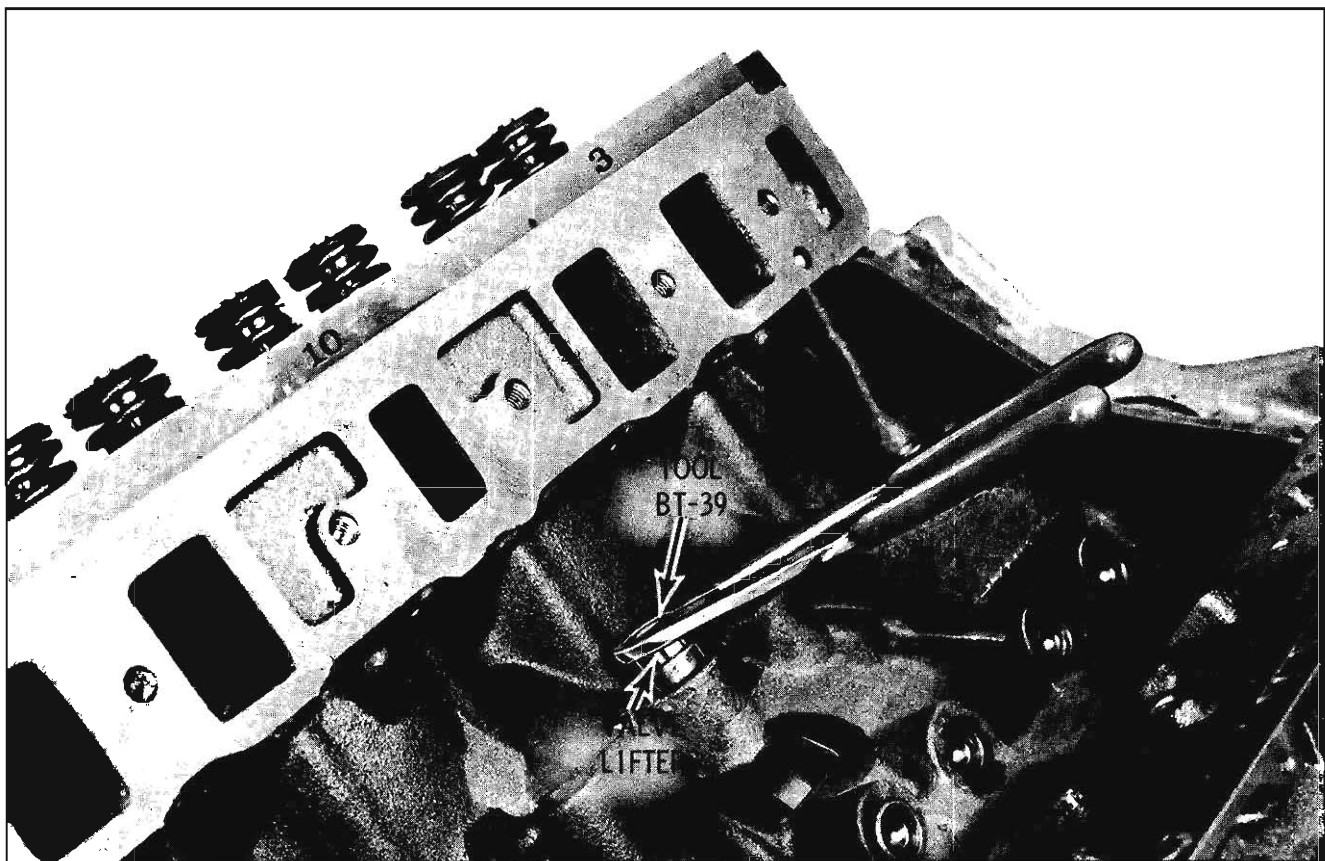

Fig. 3-409 Removing Valve Lifter
4. Remove lifters. Use of Tool BT-39 will aid in removal of varnished lifters. (Fig. 3-409)